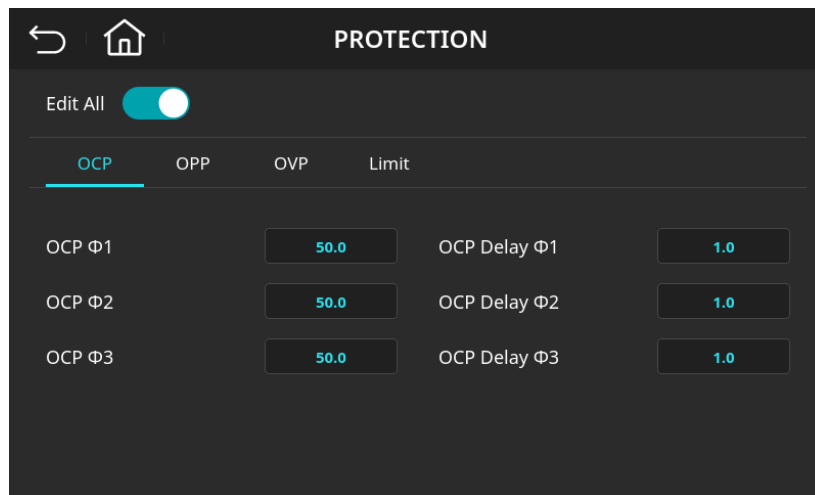

Figure 4-54 Output Overcurrent Protection Page (OCP $\Phi 1/\Phi 2/\Phi 3 = 50.0$ A, OCP Delay $\Phi 1/\Phi 2/\Phi 3 = 1.0$ s)
6. Enter , then press  to change the value to “1.0”, as shown in Figure 4-54.